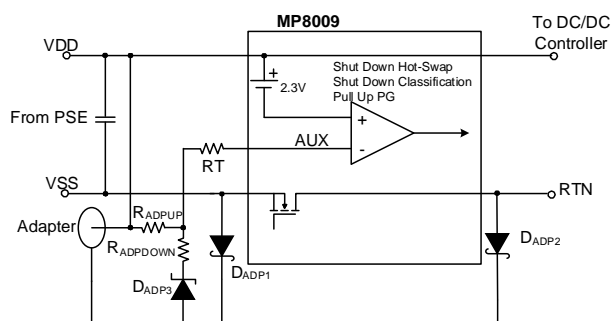

Figure 4: Adapter Power Detection
The MP8009 uses wall power adapter detection for applications where an auxiliary power source (e.g. a wall adapter) powers the device (see Figure 4). Once the input voltage ($V_{DD} - V_{SS}$) exceeds 8.5V, the MP8009 enables wall adapter detection. The wall power adapter detection resistor divider is connected from V_{DD} to the negative terminal of the adapter. A Zener diode (D_{ADP3}) is added for a more accurate hysteresis. There is a -2.3V reference voltage from AUX to V_{DD} for adapter detection. The adapter is detected when the AUX voltage is triggered, calculated with Equation (1):
To ensure that the MP8009 is stable when working with adapter power, place a Schottky diode (D_{ADP1}) between the negative terminal of the adapter and VSS. D_{ADP2} can be added to block the reverse current between the adapter and the PSE power source. When a wall adapter is detected, the internal MOSFET between RTN and VSS turns off, classification current is disabled, and T2P becomes active. The PG signal is active when the adapter power is detected, so that it can enable the downstream DC/DC controller, even if the input hot-swap MOSFET is disabled (see Figure 4).